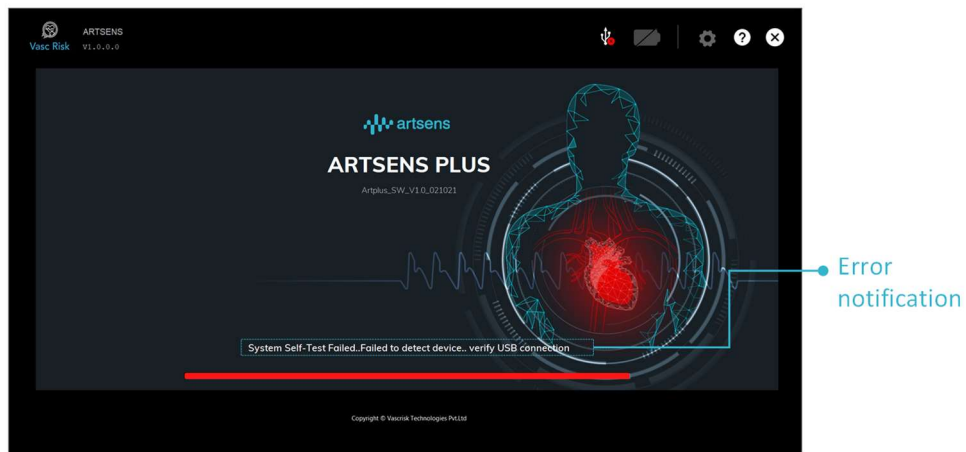

Fig.14. Self-test Failure
4. On contrary to above, red progress bar indicates error and the "SELF-TEST ERROR" message is displayed in the status bar as in fig. 14.